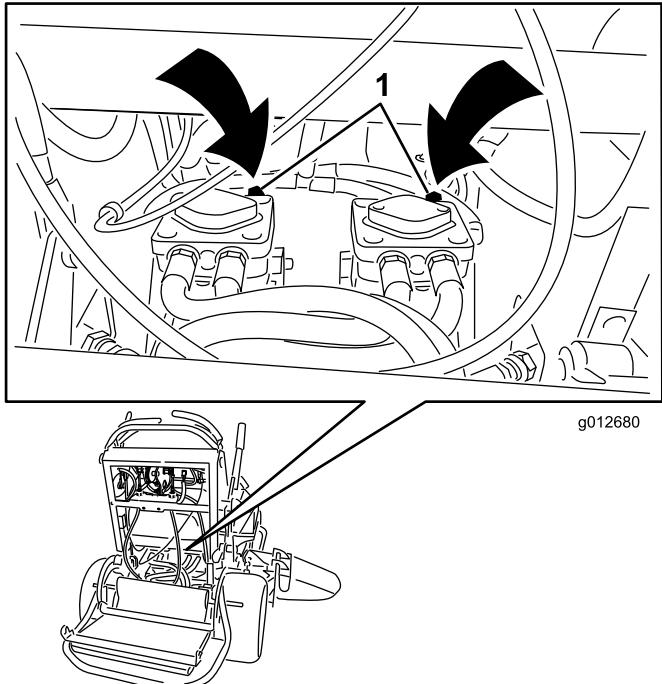

Figure 24
3. Open the by-pass valve on both pumps by turning them counter clockwise 1 to 2 turns. This allows hydraulic fluid to by-pass the pumps and the wheels to turn (Figure 24).